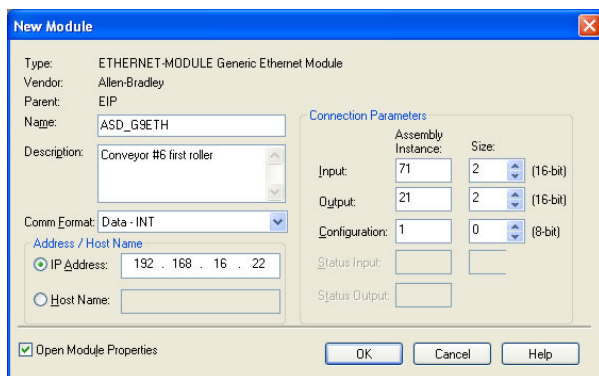

Figure 88: AC/DC Drive Profile Generic Ethernet Module Configuration
- 1) Complete all the steps in section 13.2.3. Please note that the Assembly Input Instance must be changed to 71 and the Assembly Output Instance must be changed to 21. Refer to Figure 88.